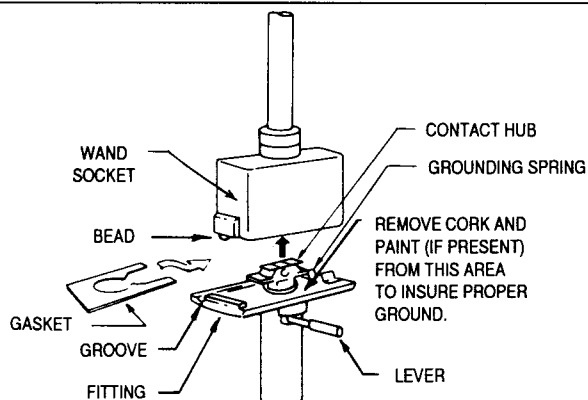

FIG. 15
1. Align **BEAD** on **WAND SOCKET** with **GROOVE** in **FITTING** before inserting into **WAND SOCKET**, see Fig. 15. (If **BEAD** is NOT aligned a potential hazard may result.)
2. Position **LEVER** as shown in Fig. 15.